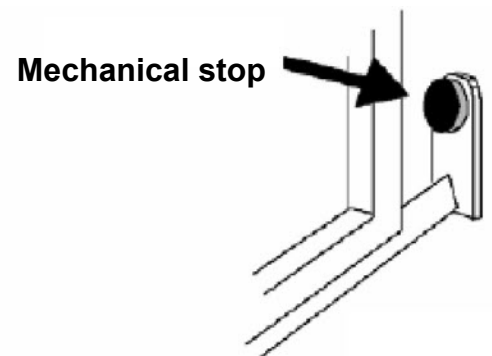
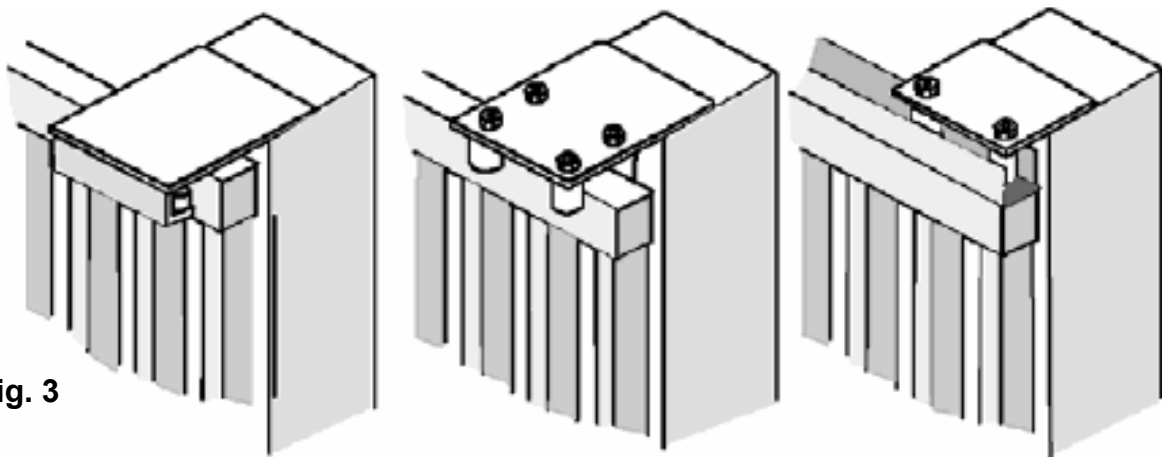
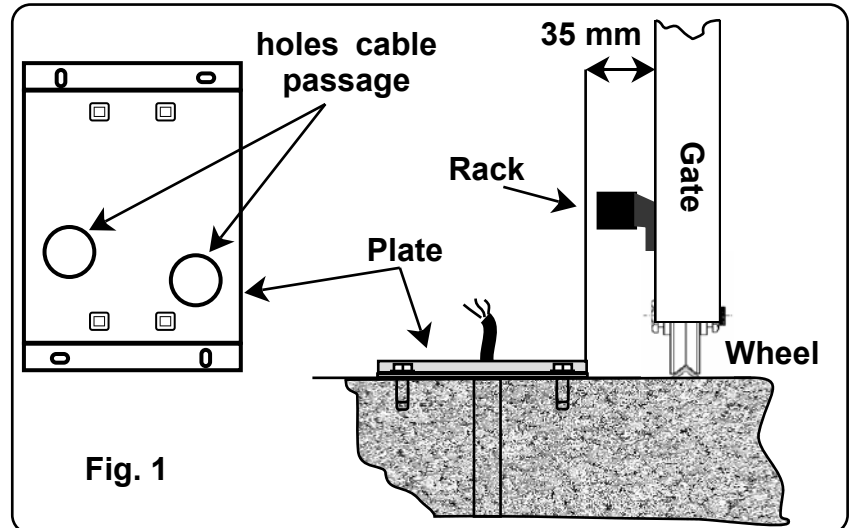

Fig. 2
Fig. 3
Fig. 1
- Also check that the runner on the ground ( **Fig. 1** ) is not deformed, is perfectly level and that the mechanical stop is present on opening ( **Fig. 2** ) in order to **prevent** the gate from going beyond the upper runners ( **Fig. 3** )
- Check the upper runner ( **see Fig. 3** ) is firm and the gate slides freely.
Position the plate provided **(Fig. 1) 35 mm/MAX** from the edge of the gate and perfectly square at an angle of 90°.